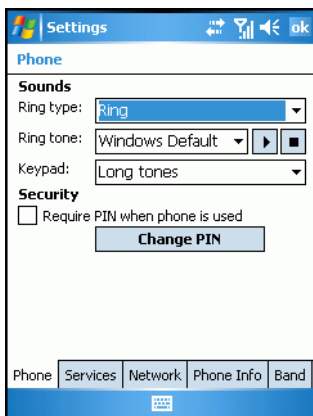

Figure 5-11 MC70 Phone Window - Phone Tab
1. From the *Phone* tab (<Blue>Figure 5-11), select the **Require PIN when phone is used** check box under **Security**.
1. From the **Phone** tab (*Figure 5-11*), tap **Change PIN**.
1. From the **Phone** tab (Figure 5-11), deselect the **Require PIN when phone is used** check box.